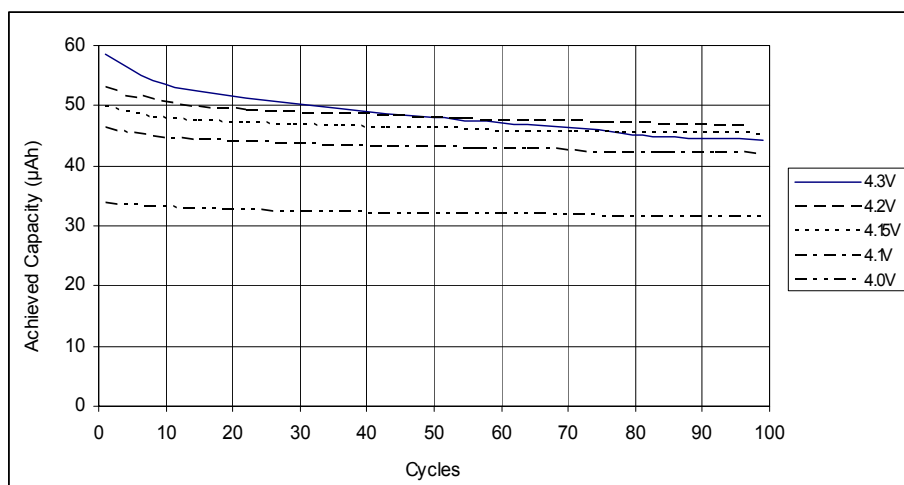

Figure 1: Effect of Charging Voltage on Battery Charge and Cycle Fade
- The charging voltage and charge time determine the amount of charge delivered to, and accessible from, the battery. A higher charging voltage will deliver more charge, but will also result in greater long-term capacity fade as a function of charge/discharge cycling. Figure 1 shows trade-offs between charging voltage, charge capacity and cycle fade.
- The batteries may be charged at a constant current (CC) followed by a constant voltage (CV). During the CC phase, the current may be set to any value that results in an acceptable charging time and does not cause the battery voltage to exceed 4.3V.